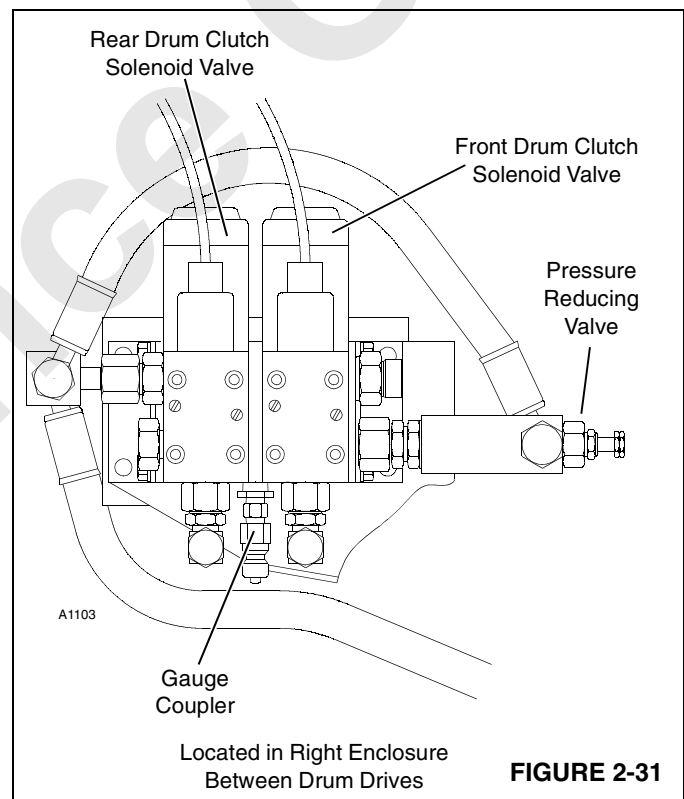

FIGURE 2-31
2. **Before starting engine first time with free fall,** remove adjusting screw from drum clutch pressure reducing valve (Figure 2-31). Then reinstall screw 1/4 in. (6 mm). The pressure reducing valve will be adjusted later in this procedure.
1. Connect a 0 – 5,000 psi (0 – 344.8 bar) pressure gauge to coupler at drum clutch pressure reducing valve (Figure 2-31).